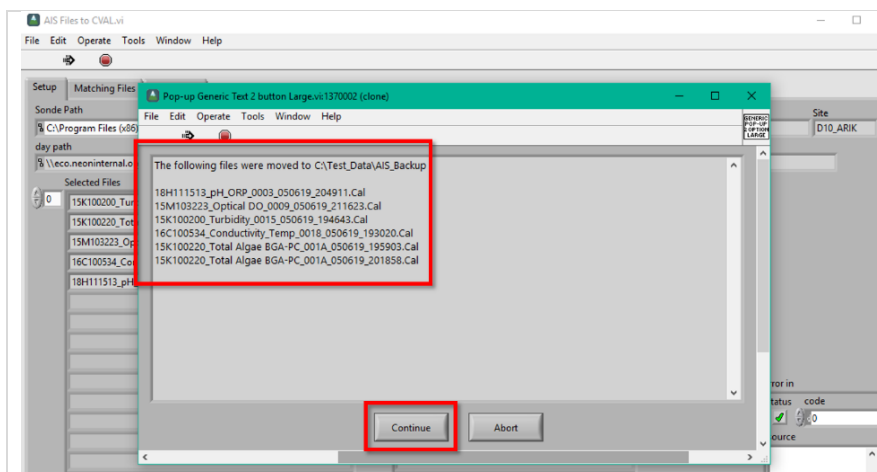

Figure 172. Archival of KorEXO Calibration Files on C Drive
**STEP 7** | This screen displays the files that the application moves from the KorEXO folder to an Archive folder on the C Drive. Notice in Figure 172, there are two files for Chlorophyll. That is because the probe sensor failed its initial calibration.